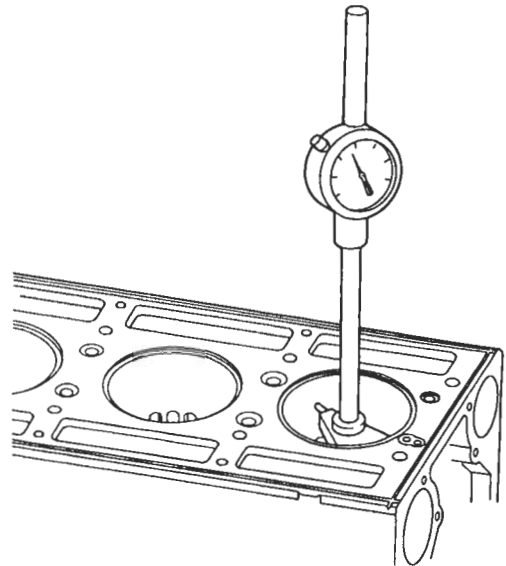

Figure 12. Checking Bore of Cylinder Block with Tool J 5347-B
- b. Measure the entire bore of each cylinder with cylinder bore gage J 5347-B which has a dial indicator calibrated in .0001 inch increments (Figure 12.) The standard block bore is 4.6256 to 4.6275 inch.